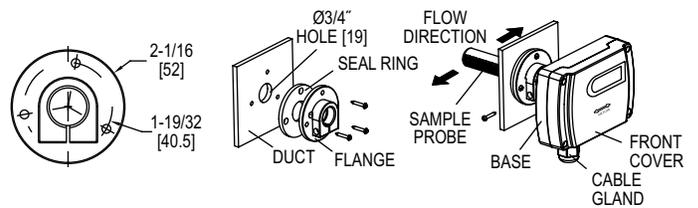

Figure 2B
- To install via the flange as shown in Figure 2B, drill a $\text{Ø}19$ mm hole in the duct, install the seal ring and the flange onto the duct using three of the four provided shorter screws. Then, insert the probe into the duct. Use the last provided short screw to lock the whole enclosure onto the flange.